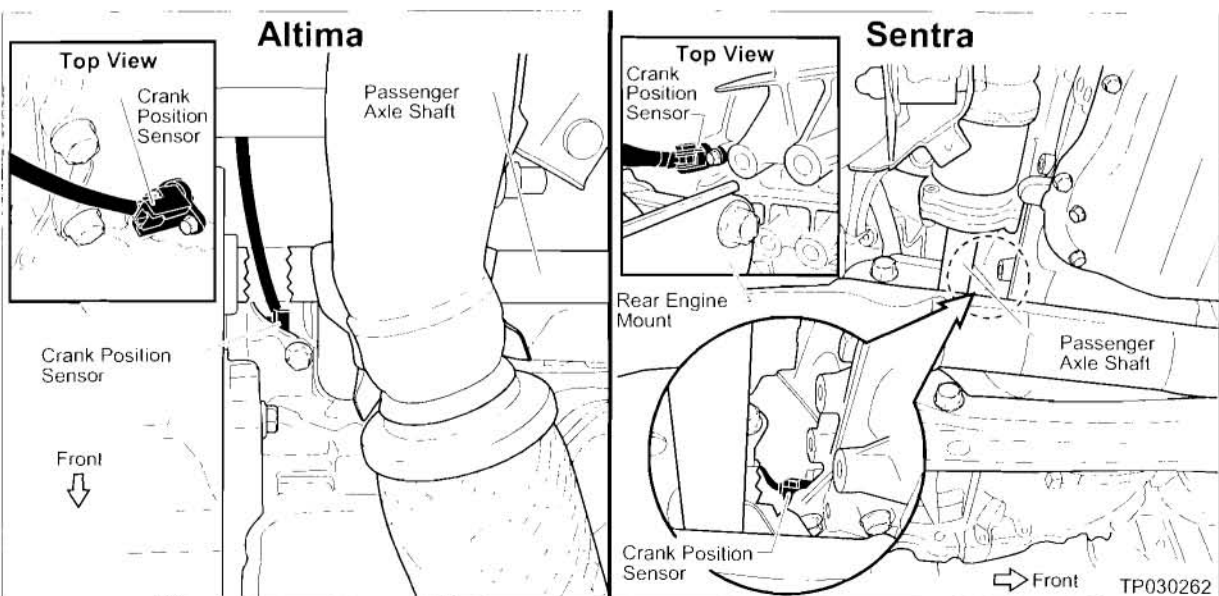

Figure F2
- Remove the Crankshaft Position Sensor before separating the engine and transmission. Do NOT damage the edge of the Crankshaft Position Sensor or the ring gear teeth. Pull the sensor straight out to help avoid damage (see Figure F2).